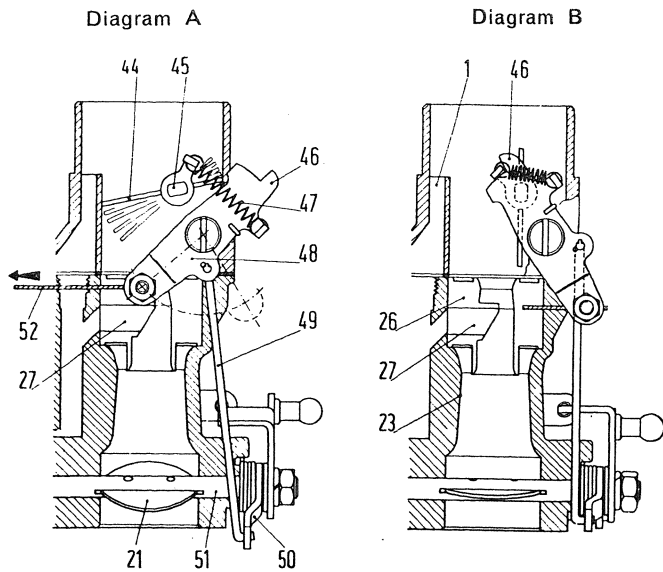

Fig. 538 - Weber 28 ICP carburetor - Schematic diagram.
When the choke lever on car floor tunnel is pulled for engine cold starts, lever (48) is brought into the position shown in diagram A (fig. 538) and strangler (44) therefore « chokes » carburetor air intake while throttle (21) is positioned at a given opening through link (49) connecting lever (48) and lever (50) on throttle spindle (51).